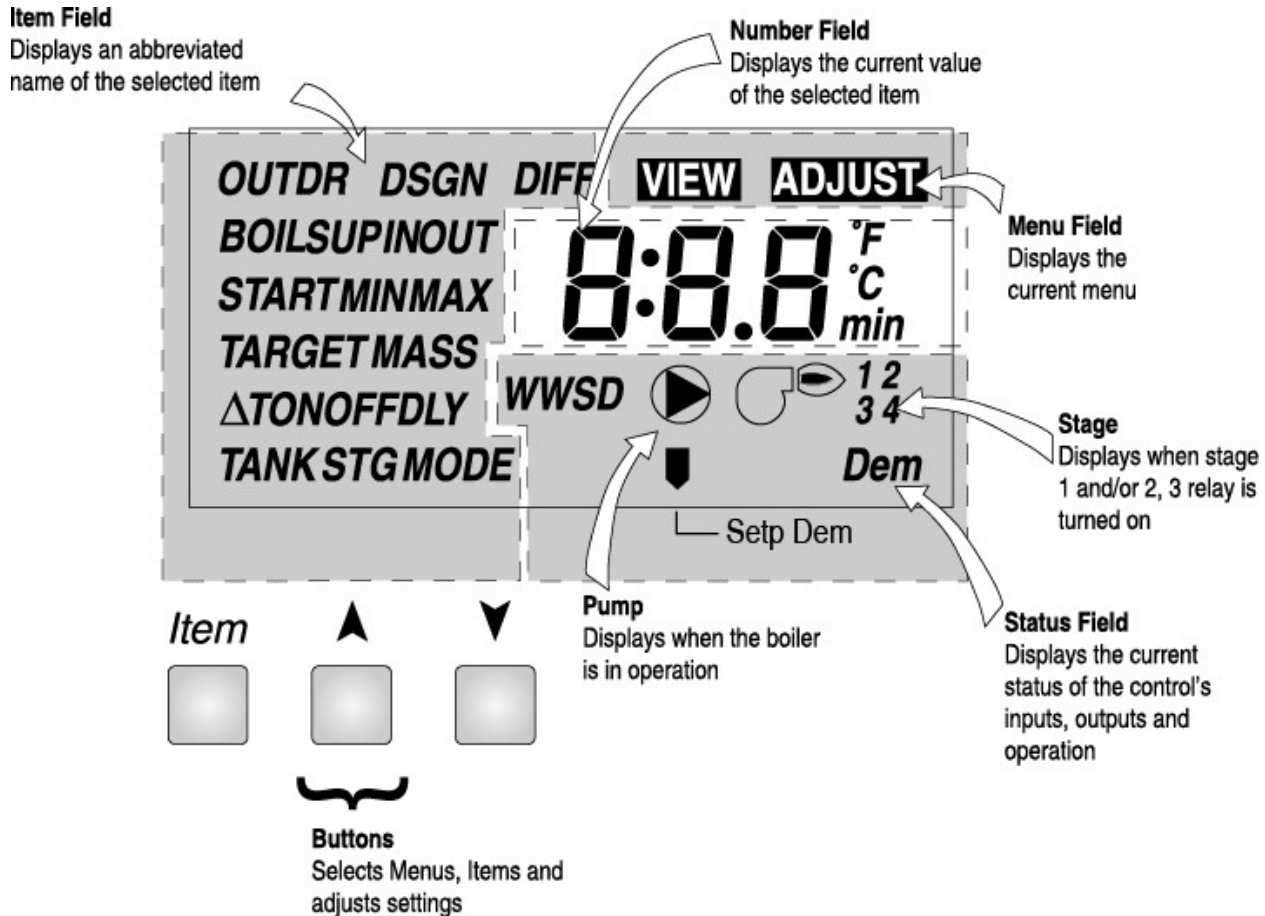

Figure 3 – BC-1 Controller LCD Display
- 6) Press and hold three keys found below the LCD screen of the controller until "Adjust" is displayed (Figure 3). In adjust mode, enter the desired settings for your heating application (see *BC-1 Series Boiler Controller Manual* for more information).